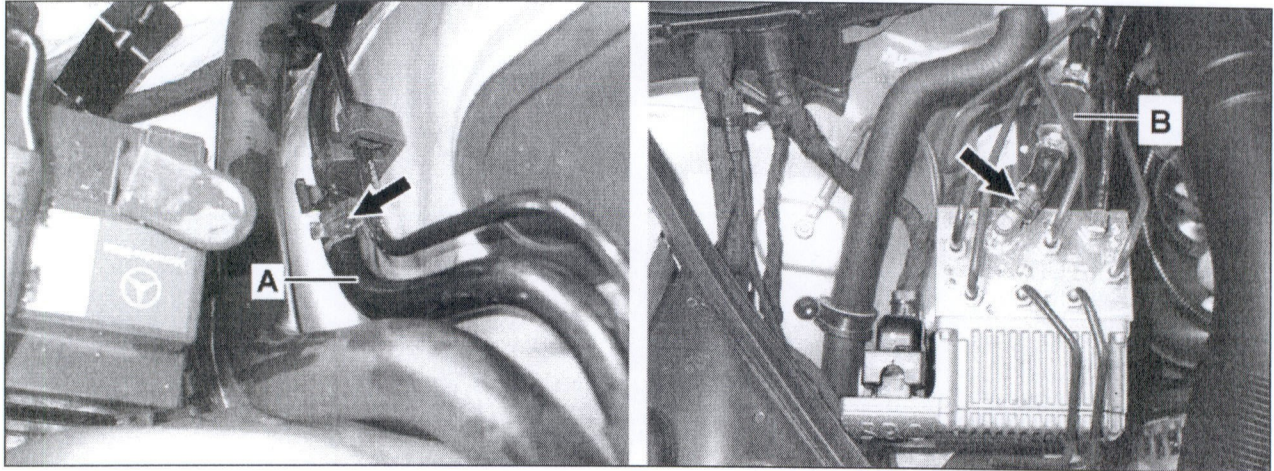
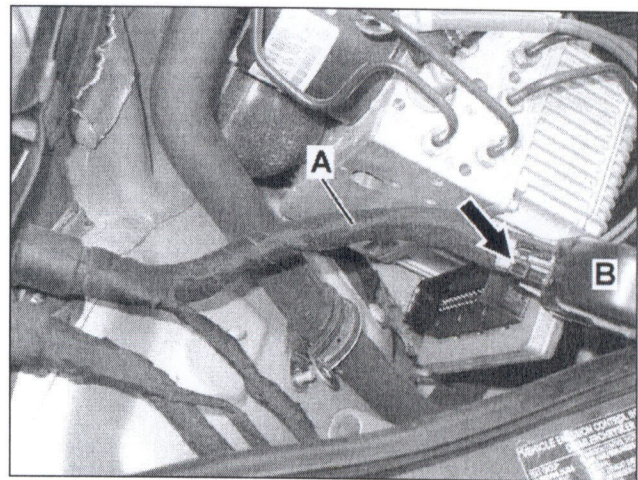

Figure 4
Figure 5
9. Check if a pulsation damper (B, Figure 4) was installed on suction hose:
- If pulsation damper (B) was **not** installed: Install new standard suction hose (A) to suction line, secure with new hose clamps (arrows).
- If pulsation damper (B) **was** installed: Install new suction hose (A) with double pulsation damper to suction line, secure with new hose clamps (arrows).
11. Remove cable tie (arrow, Figure 5) securing SBC wire harness (A) to SBC connector housing (B).